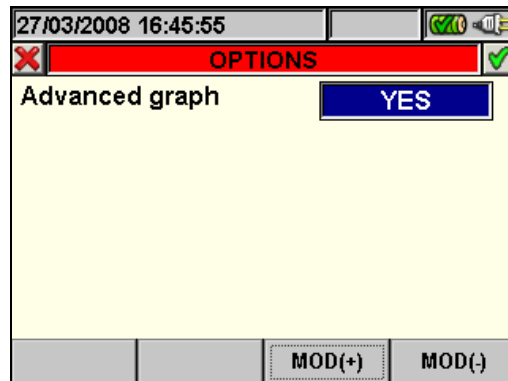

Fig. 121: Options (Advanced graph)
- **F4** key (or **OPTIONS** item on the display) to access the page for the activation of the “Advanced graph” (Fig. 121).
2. Press the **F4** key (or the **OPTIONS** item on the display) to access the page for the activation of the Advanced graph (Fig. 121).